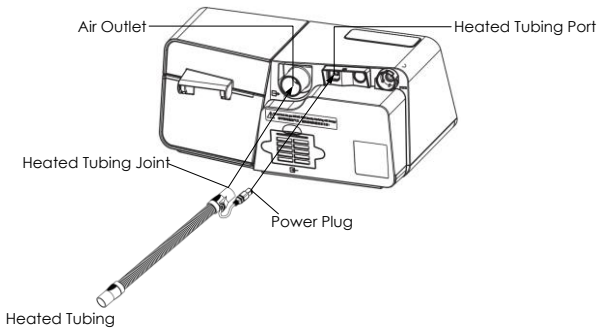

Fig. 12-5
(2) Connect the heated tubing joint to the air outlet of the device, and then insert the power plug of the heated tubing into the heated tubing port on the back of the device, as shown in Fig. 12-5.